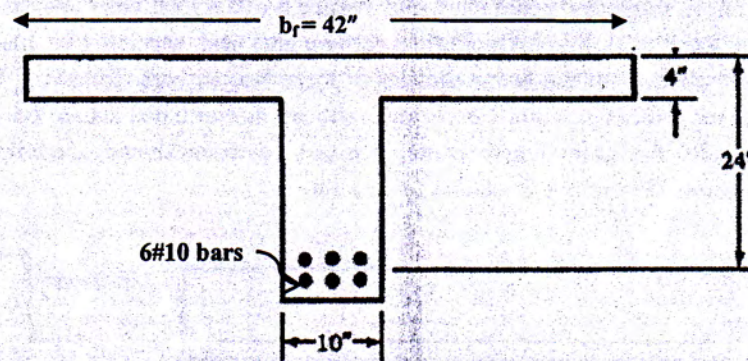

Figure 7
10. (a) Draw a neat sketch showing flexural stress distribution over T- beams. (3)
- (b) Determine the design moment capacity of the T-beam shown in Figure 7. Given, $f'_c = 3$ ksi and $f_y = 60$ ksi. (7)